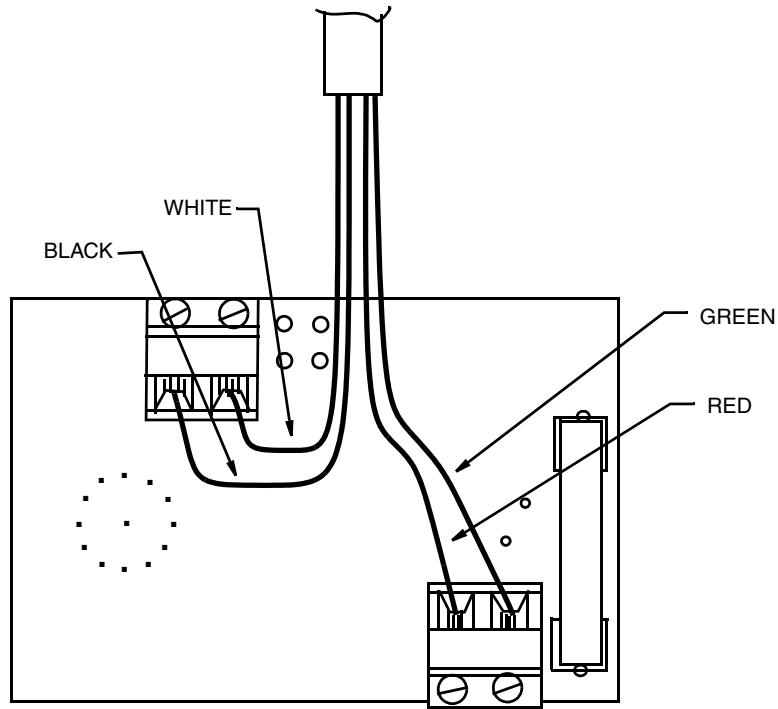

Figure 7. Cable Assembly Terminals
6. Insert the cable assembly through the strain relief pigtail, bushing, and enclosure. Connect the leads to the proper terminals of the circuit board (Figure 7).